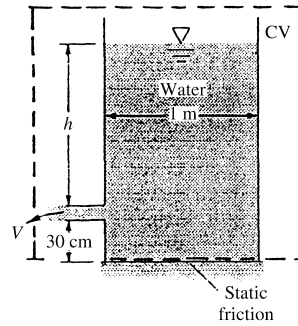

Fig. P3.81
**3.81** Torricelli's idealization of efflux from a hole in the side of a tank is  $V \approx \sqrt{2gh}$ , as shown in Fig. P3.81. The tank weighs 150 N when empty and contains water at 20°C. The tank bottom is on very smooth ice (static friction coefficient  $\zeta \approx 0.01$ ). For what water depth  $h$  will the tank just begin to move to the right?